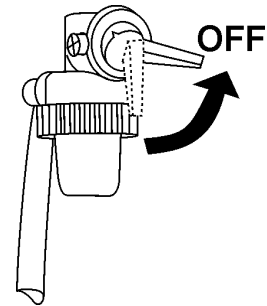

Figure 28. Engine Fuel Valve Lever (OFF)
5. Place engine fuel valve lever (Figure 28) in the **OFF** position.